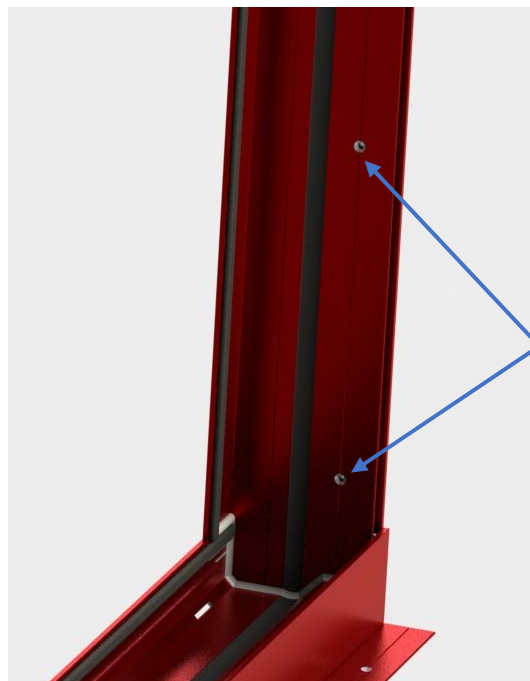

Fig. 14
- D. Drill pilot holes in the jamb and head receptor per shop drawings or anchorage calculations. Typically 3" from the corners and 12" on center. **Keep all pilot holes on the interior side of flashing flange.** (Fig. 14)